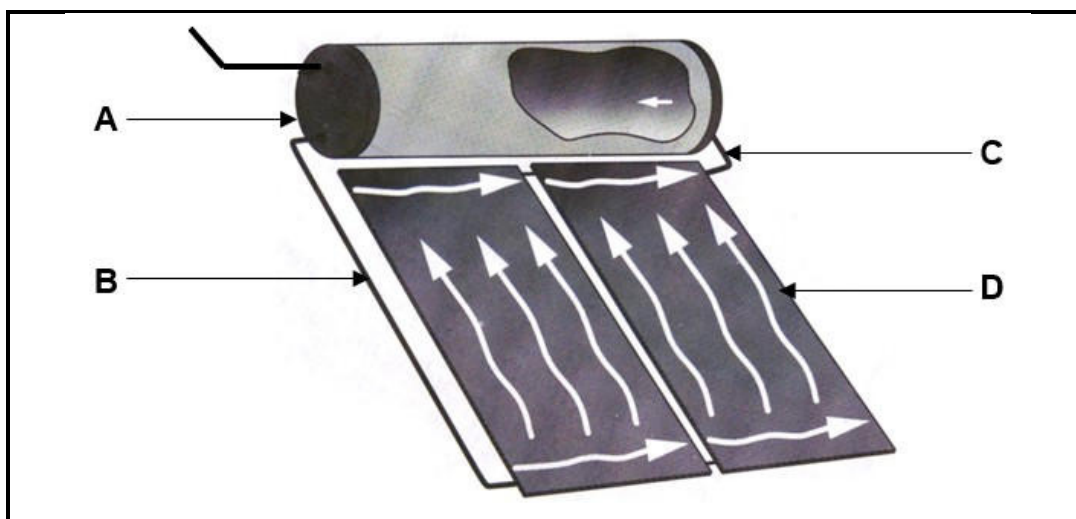

FIGURE 4.10
4.10 Answer the following questions about the geyser system in FIGURE 4.10.